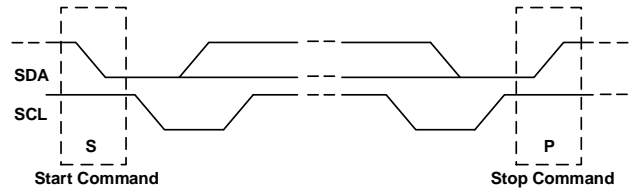

Figure 22: Start and Stop Conditions
The start (S) and stop (P) commands are signaled by the master device, which signifies the beginning and the end of the I²C transfer. A start command is defined as the SDA signal transitioning from high to low while the SCL line is high. A stop command is defined as the SDA signal transitioning from low to high while the SCL line is high (see Figure 22).